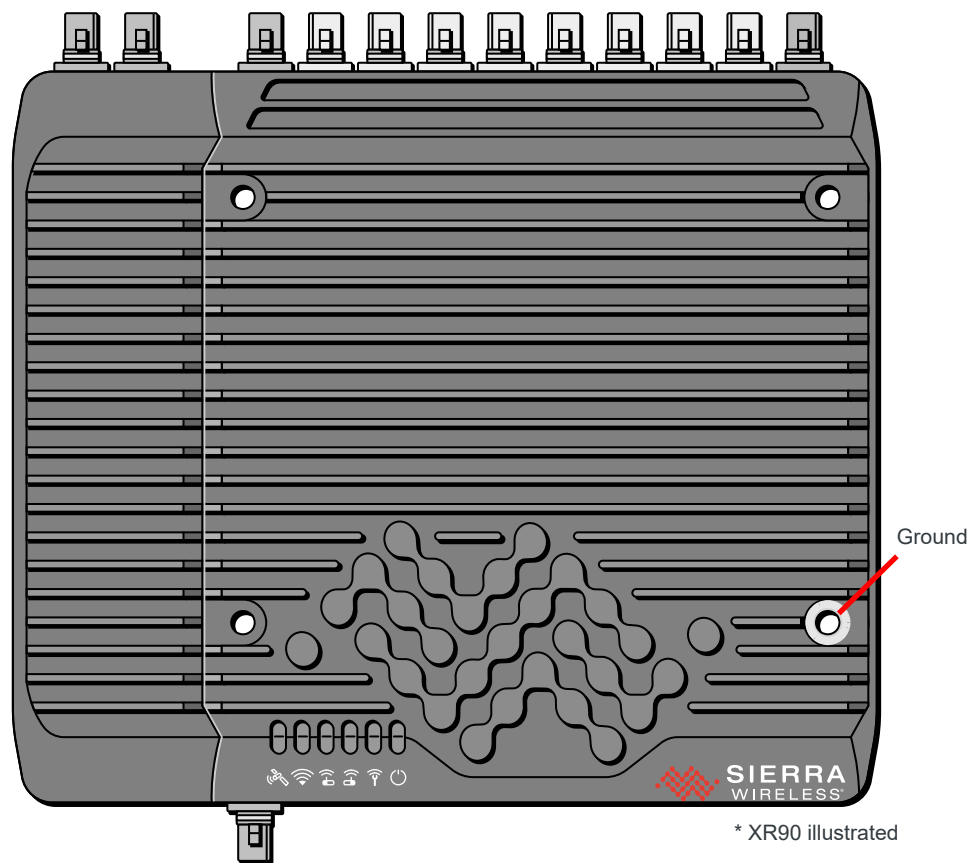

Figure 2-7: Ground Connector
Sierra Wireless strongly recommends that you always ground the router using the unpainted mounting hole (grounding point) shown in Figure 2-7 on page 19.
- Connect one end of a short 18 AWG or larger gauge wire to the unpainted mounting hole (see Figure 2-7) and connect the other end to your main grounding point. (e.g. for a vehicle-mounted XR router, ground to the vehicle chassis)